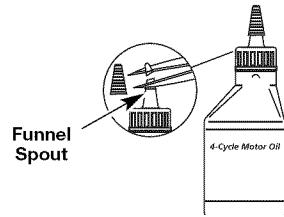

Fig. 2
1. Unscrew the top of the bottle of oil and remove the paper seal covering the opening. Replace the top. Next, cut the tip off of the funnel spout (Fig. 2).